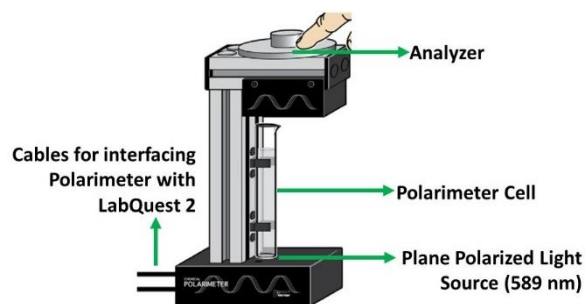

Figure 5. 2 Vernier Polarimeter adopted from www.vernier.com/
1. The Vernier Polarimeter has two cables (see Figure 5. 2). One is a BTA (CH1 CABLE) connector that should be plugged into CH1 SENSOR PORT of LabQuest2, and one is a BTD connector that should be plugged into DIG1 SENSOR PORT of LabQuest2. Both connections are required for data collection.